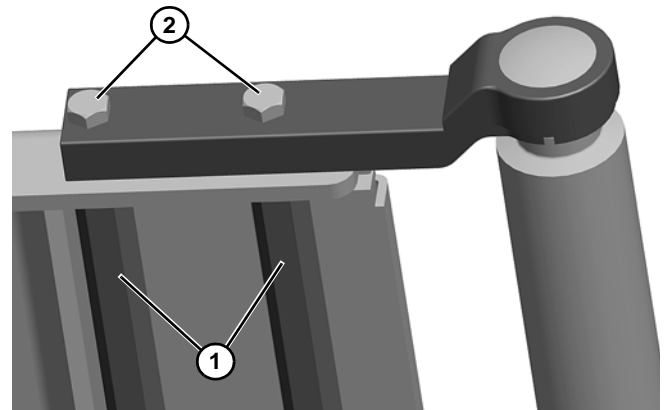

Figure 10
5. On the opposite drive side of the conveyor, using a wrench to hold the hex bars (**Figure 10, item 1**) underneath, remove the two M6 screws (**Figure 10, item 2**).